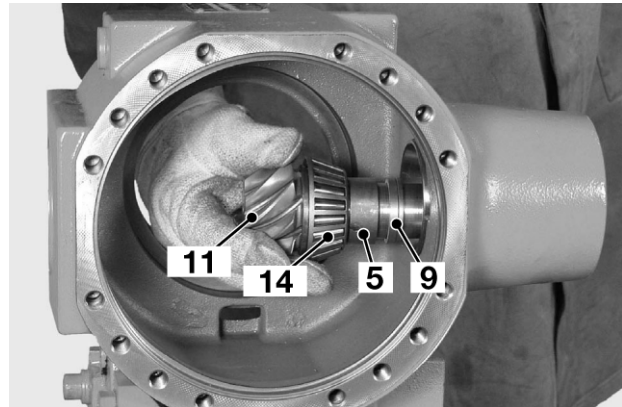

Fig 231.
- 16** Install the distance-ring **5** and the pre-calculated (S2) shim **9** onto the pinion, then install the pinion into the pinion-housing **12**. → Fig 231. (□ F-83).